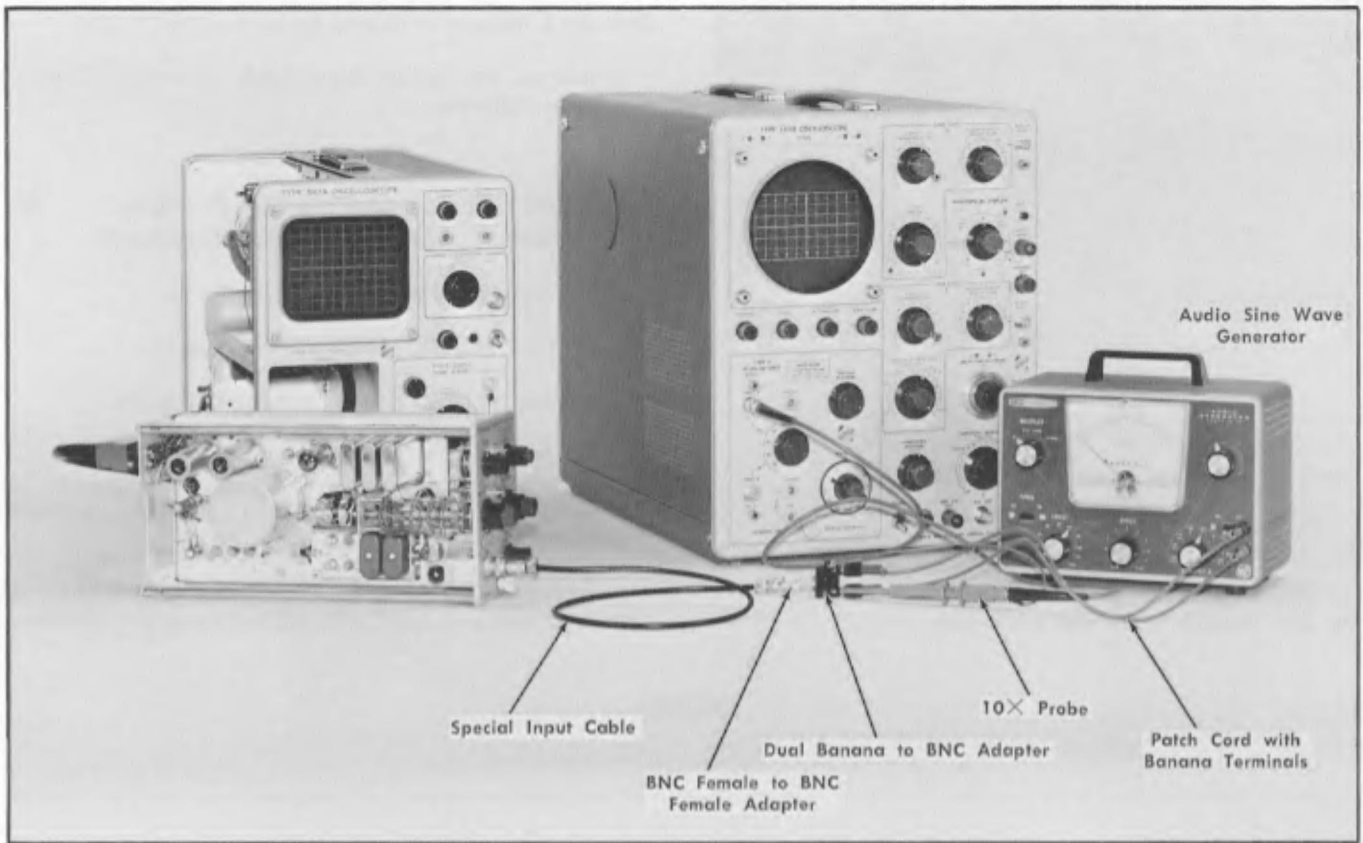

Fig. 6-13. Test equipment setup for step 10.
10. Adjust C424 and C524 (High Frequency Common Mode Rejection) ①
- a. Test equipment setup is shown in Fig. 6-13.